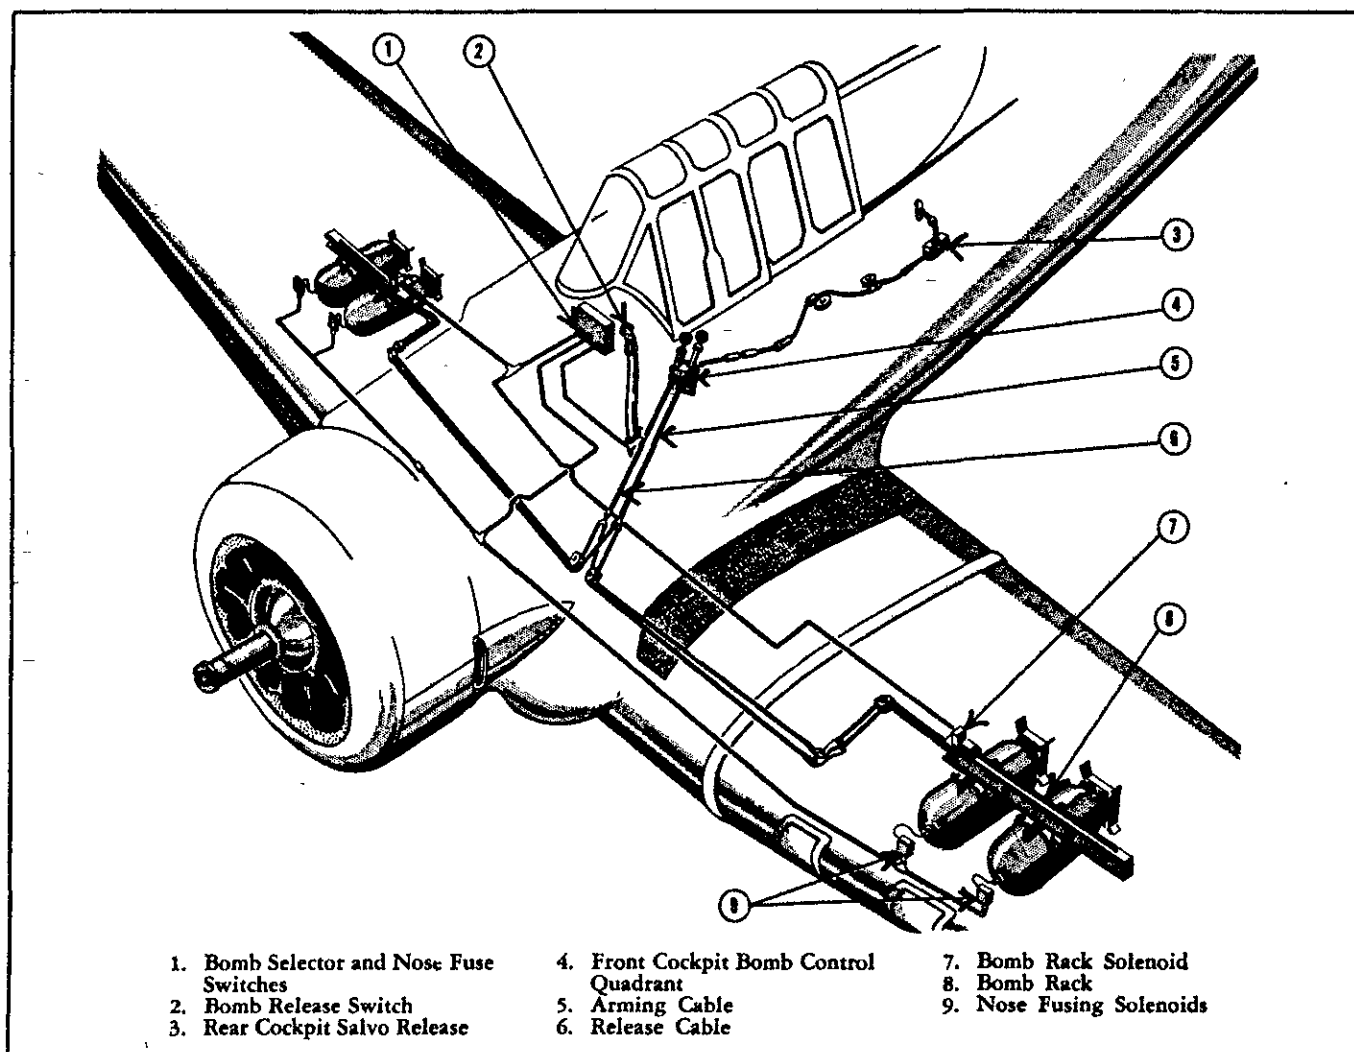

Figure 34 — Bombing Equipment
(1) **GENERAL.** (See figure 34.)—Complete provisions have been incorporated in the airplane for a flush-type bomb rack and other bombing equipment on the lower surface of each outer wing panel. The bomb racks will carry five M-5, 30-pound fragmentation bombs or five M-41, 20-pound fragmentation bombs, either U.S. or British. Two auxiliary bomb shackles may be added to each of these racks for carrying a total of four Mark I, 100-pound bombs, either U.S. or British, in place of the smaller bombs.